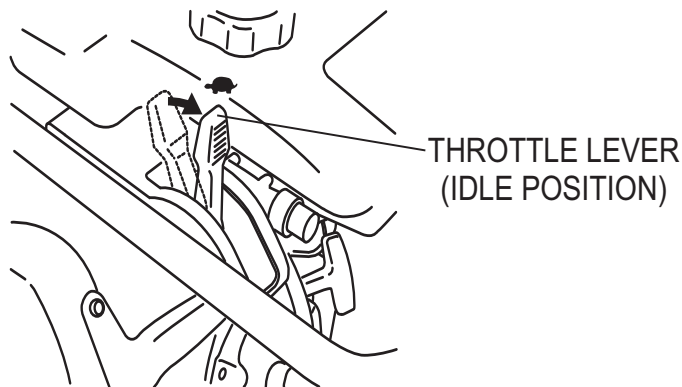

Figure 5-A. Throttle Lever (Idle Position)
1. Slide the throttle lever from the stop to the idle position (🐿) (Figure 5). This opens the fuel cock and the engine electrical circuit is turned on automatically.
2. **Units with Carburetor Primer System:** Push the primer pump bulb four (4) times to deliver fuel to the carburetor (Figure 5-B).